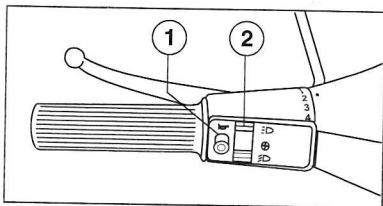

Fig. 15
**Left hand side of the handlebar** (Fig. 15).
**Horn** - Press button '1' (fig 15)